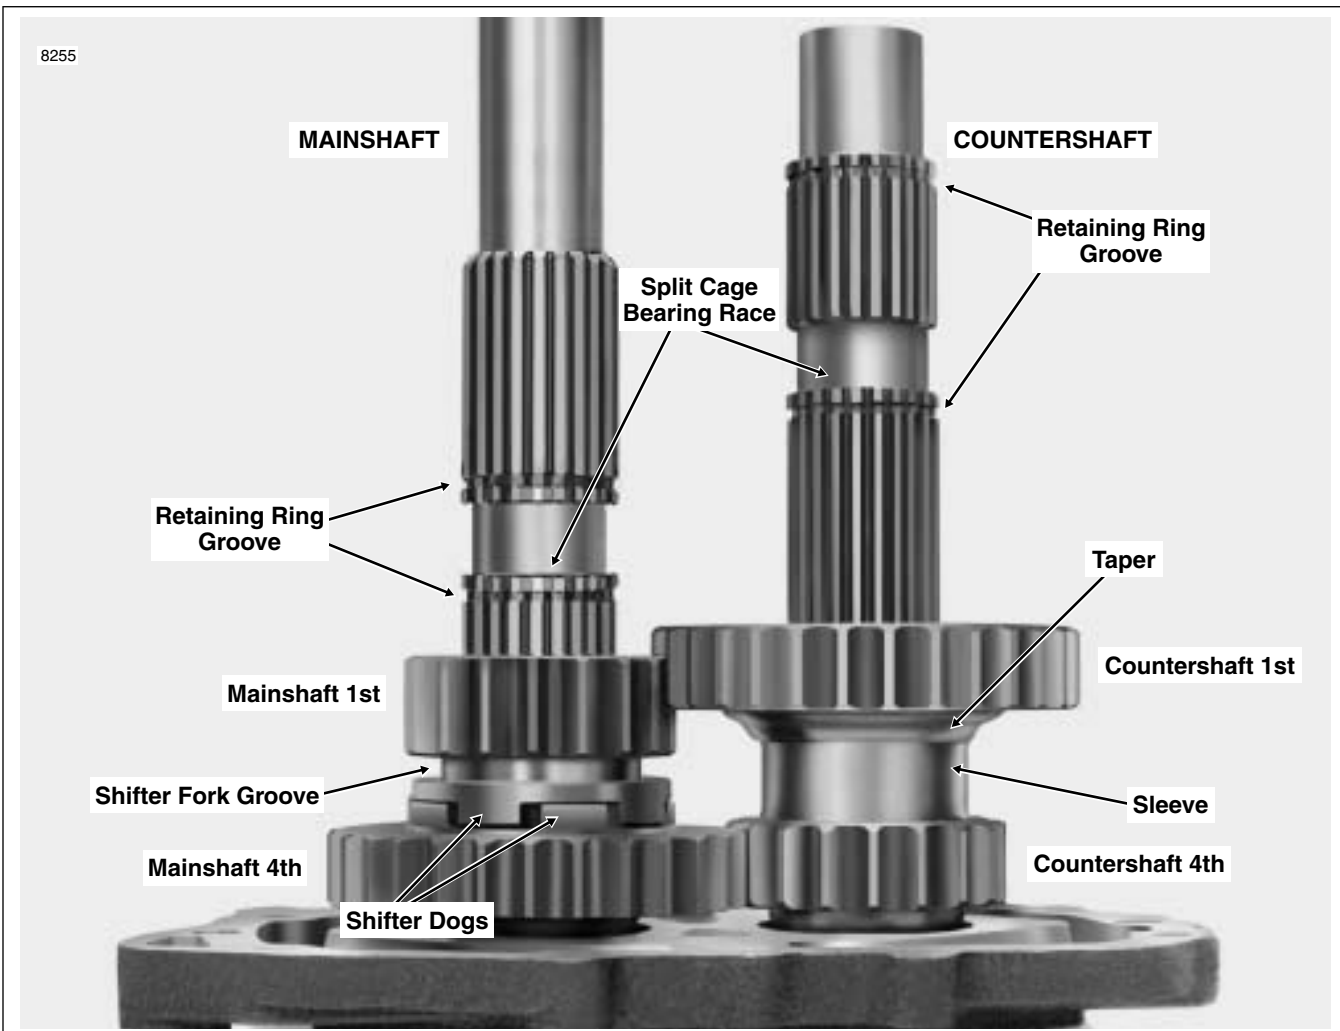

Figure 7-22. Install Mainshaft and Countershaft 1st and 4th Gears
2. See Figure 7-22. Install mainshaft 4th gear over the split cage bearing with the shifter dogs up. From the opposite end of the shaft, slide on the mainshaft 1st gear with the shifter fork groove facing the side door end of the shaft.
4. See Figure 7-22. Install countershaft 1st gear over the split caged bearing with the taper facing down (flat side up). From the same end of the shaft, slide on the countershaft 4th gear so that the sleeve contacts the taper of the countershaft 1st gear.